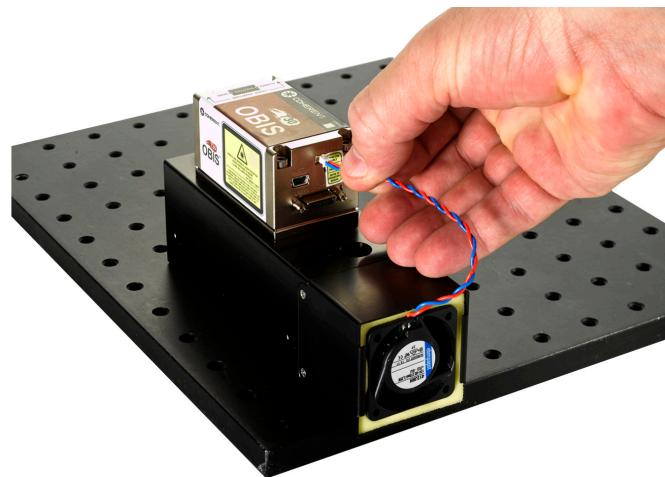

Figure 3-12. Connect the Fan Cable to the OBIS Fan Connector
2. Connect the heatsink fan cable to the Fan connector on the OBIS, as shown in Figure 3-12. The fan cable supplies power to the heatsink fan.